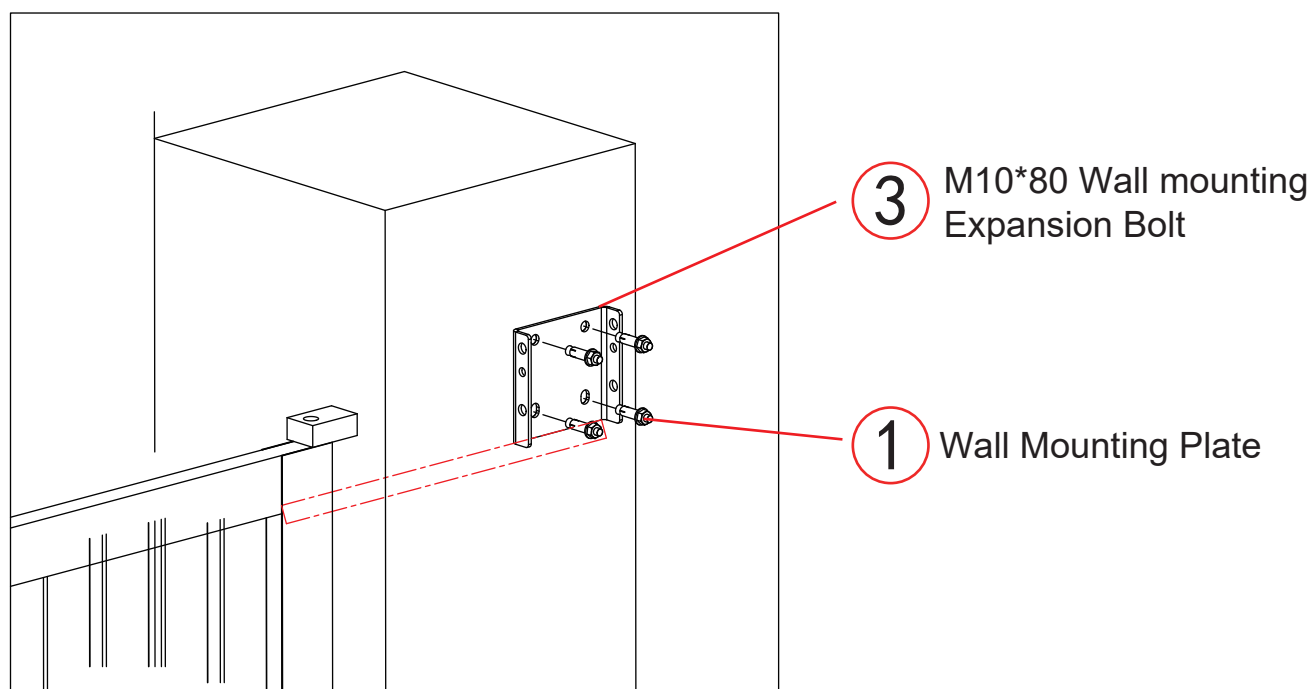

Figure 1
1. Install ① wall mounting plate with ③ M10*80 wall mounting expansion bolt. Refer to the Figure 1.